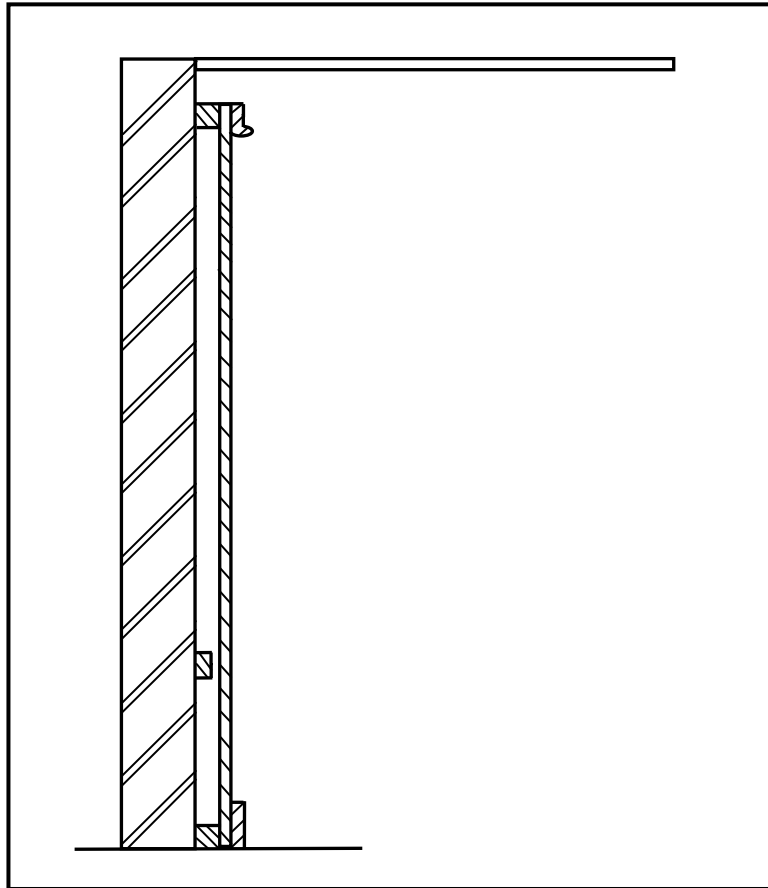

FIGURE 3.5
- 3.5 FIGURE 3.5 below shows a vertical section through a wall panel which was constructed incorrectly. The wall panelling stretches from the floor to the ceiling. Study the picture and answer the questions that follow.